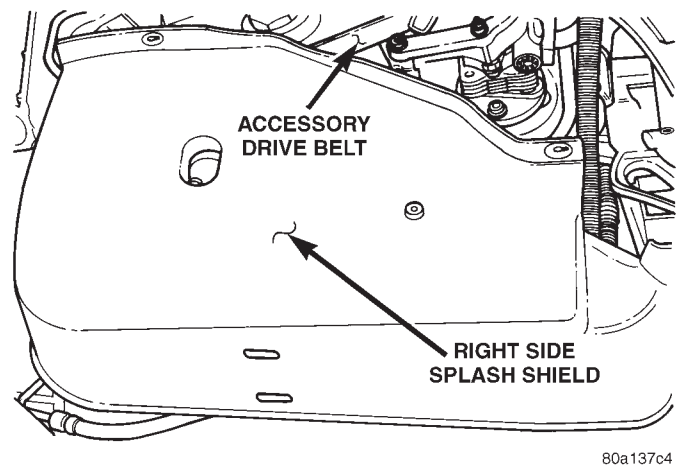

Fig. 17 Right Side Splash Shield
(1) Drain cooling system. Refer to Draining Cooling System in this Group.
(2) Remove the right inner splash shield (Fig. 17).